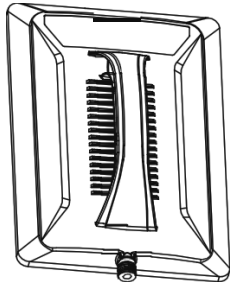

Fig.4
3. Hold the steam plate flat against the wall for approximately 10 seconds. (Fig 4)